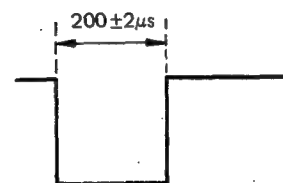

Figure 8-22.
3. Selecting (–) sync slope with the oscilloscope, adjust R2016 to meet the requirement given in Figure 8-22.